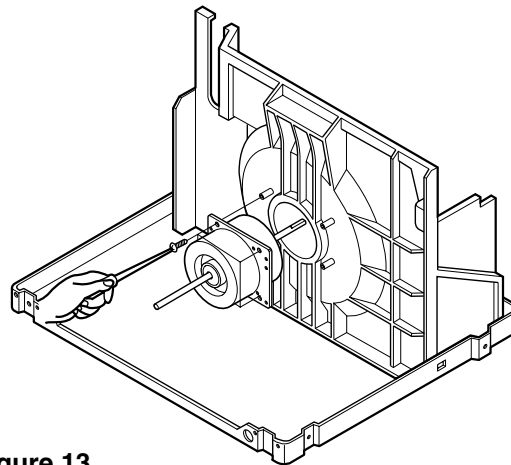

Figure 13
4. Remove the 4 screws which fasten the motor from the air guide. (See Figure 13)
6. Re-install the components by referring to the removal procedure, above.(See Figure 13)